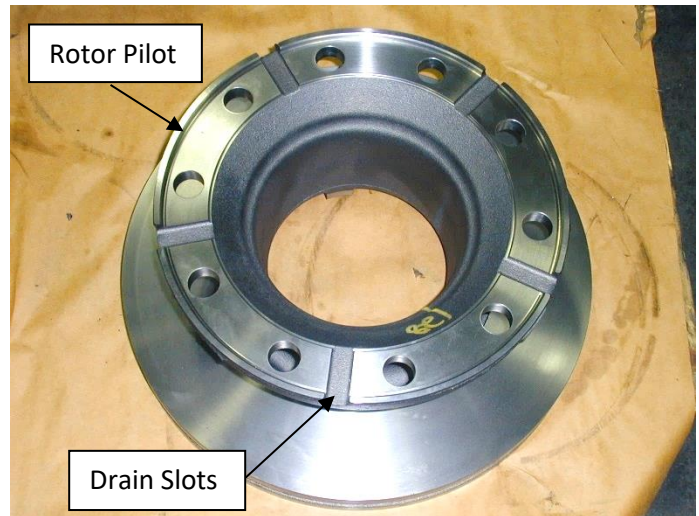

Figure 13
- 1) With a new rotor sitting on a flat surface face down on the brake plates, gently locate the hub on the rotor pilot such that the stud holes carefully align and that the previous drain slot impressions are in line with the new rotor cast drain slots. See Figures 13 & 14.